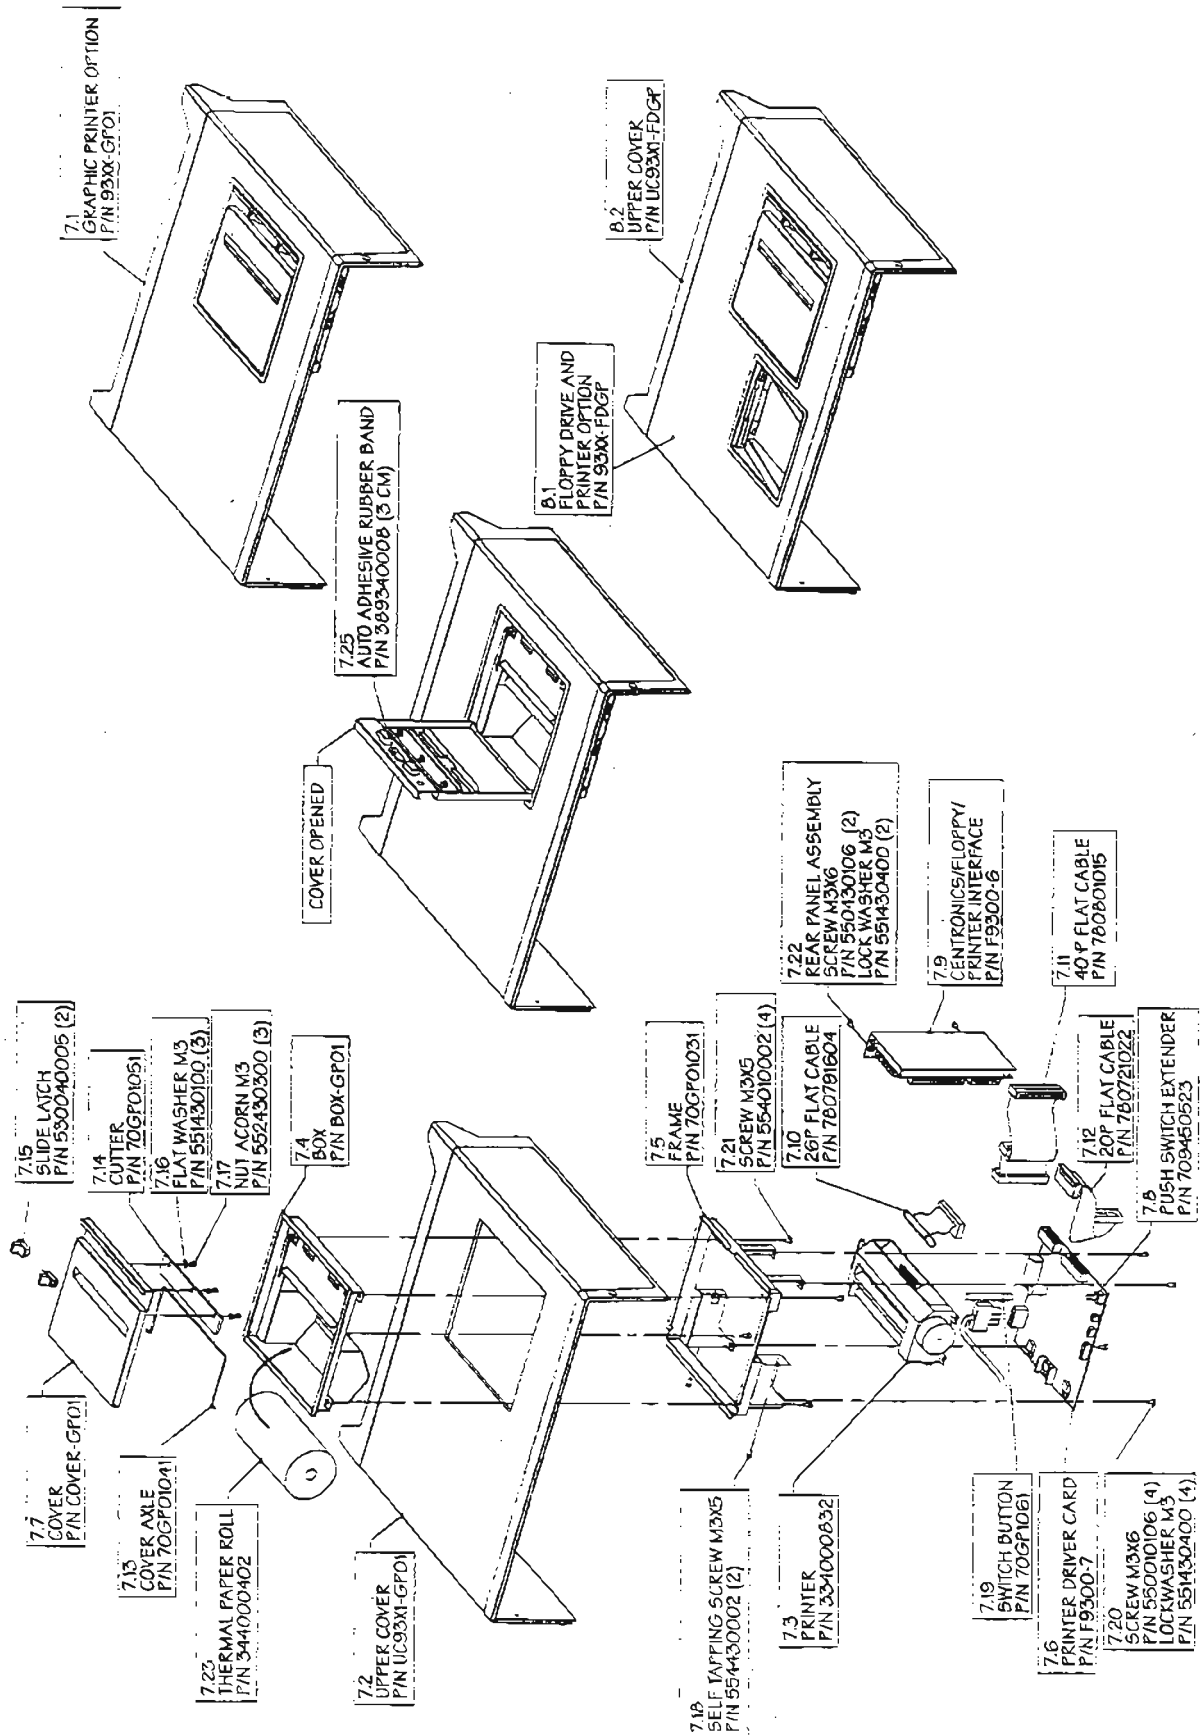

Figure 6.6 : Graphic Printer Assembly
- Disconnect the flat ribbon cable from the F9300-6 interface (see figure 6.6).
- Disconnect the flat cable from the F9300-4 GPIB/RS232 board (see figure 6.6).